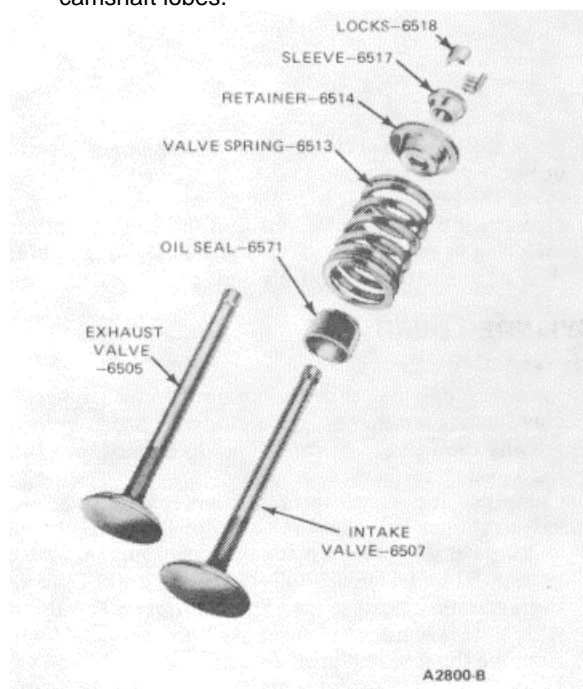

FIG 61 Typical Valve Assembly
2. Install each valve (Figure 61) in the valve guide from which it was removed or to which it was fitted. Install a new stem seal on the valve.